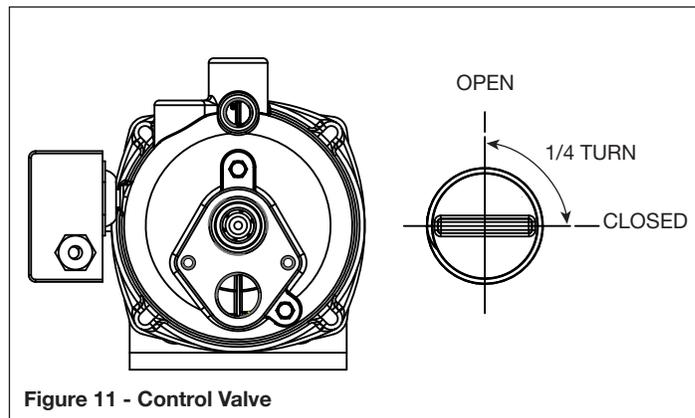

Figure 11 - Control Valve
**NOTICE** *When the deep well pump is used with the bolt-on shallow well jet, be sure the control valve slot (Figure 11) is in the vertical (open) position at all times.*
4. Close the control valve (Figure 11) and open a nearby faucet.